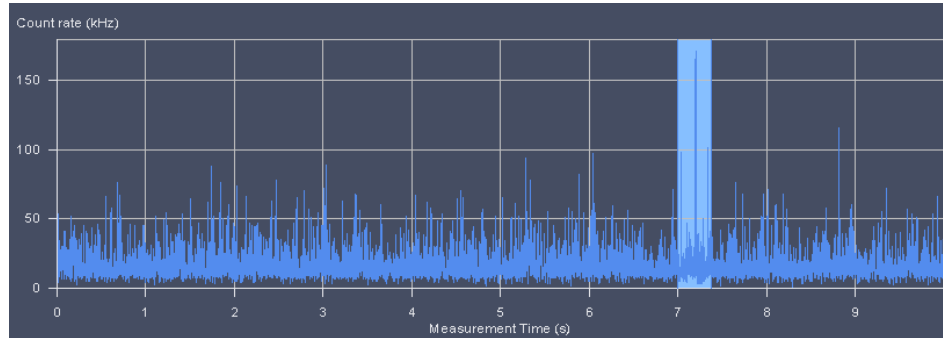

Fig. 295 Count rate trace with cut out regions
- A threshold in % is set by typing in a value into or by using the arrows of the **Deviation to erase peak in Count rate** display window. All measurement points within a binned count rate time window having a deviation of more than the specified value from the average count rate will be cut out and not used for the correlation analysis (Fig. 295). The default value of 10 % can be activated by pressing the **10** button.